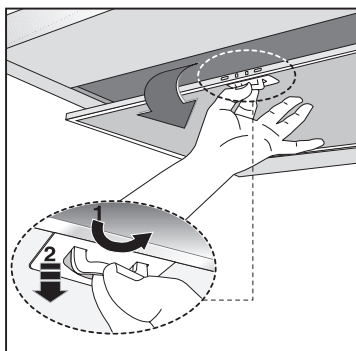

Fig.5
- The minimum distance between the support surfaces of the cooking pots on the cooker top and the lowest part of the cooker hood must be at least 65 cm. If a connection tube composed of two parts is used, the upper part must be placed outside the lower part. Do not connect the cooker hood exhaust to the same conductor used to circulate hot air or for evacuating fumes from other appliances generated by other than an electrical source. Before proceeding with the assembly operations, remove the anti-grease filter(s) (Fig.5) so that the unit is easier to handle.